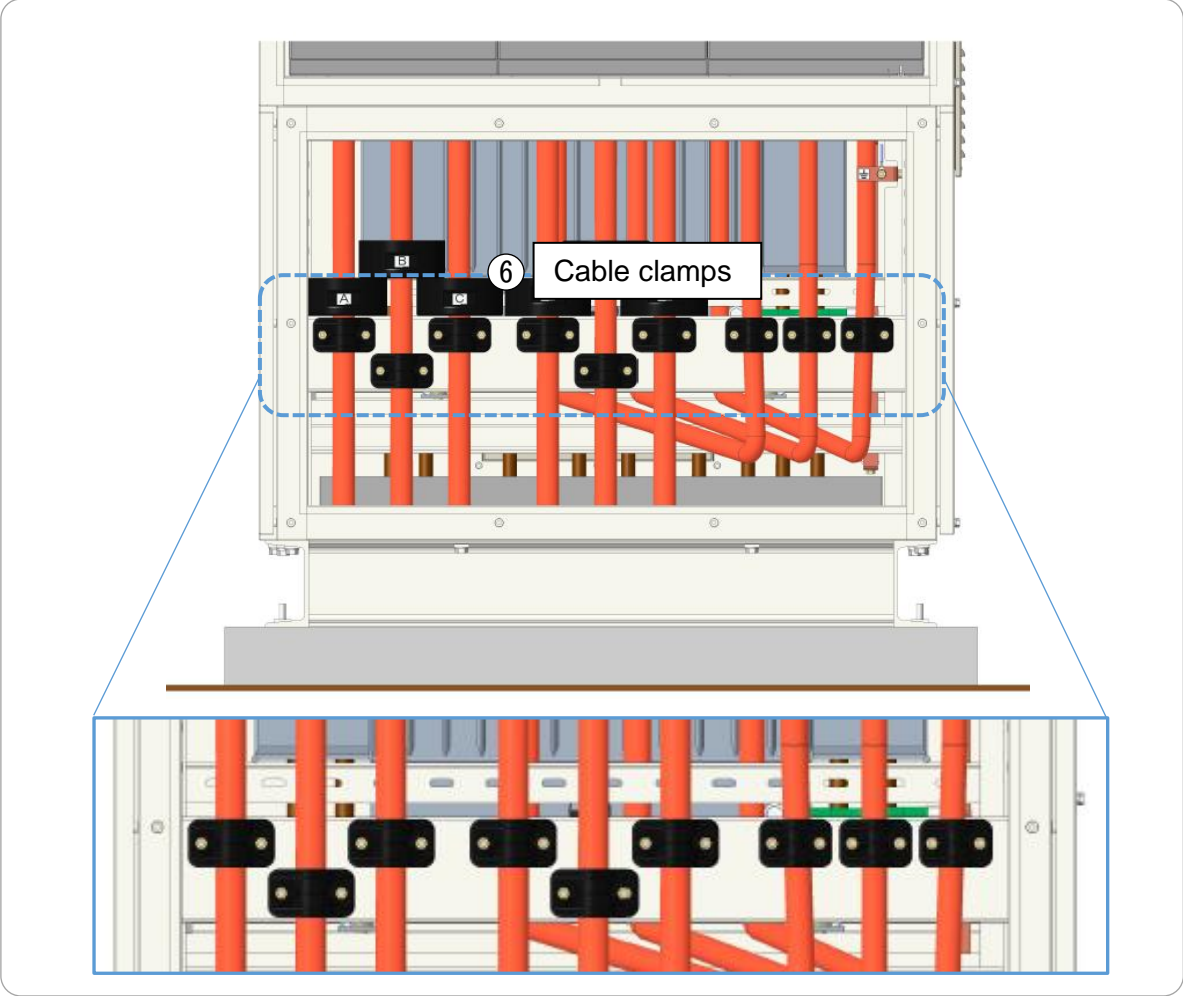

Figure 16. Installation of cable clamp
- ⑥ Install the cable clamps. [Figure. 16]